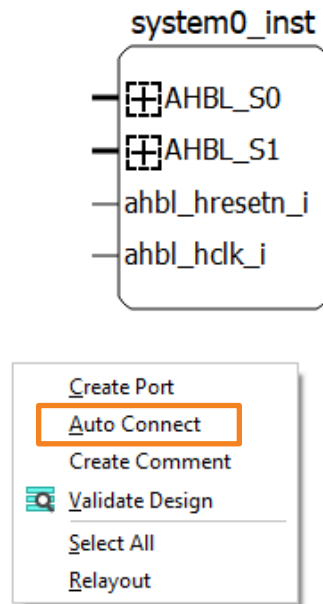
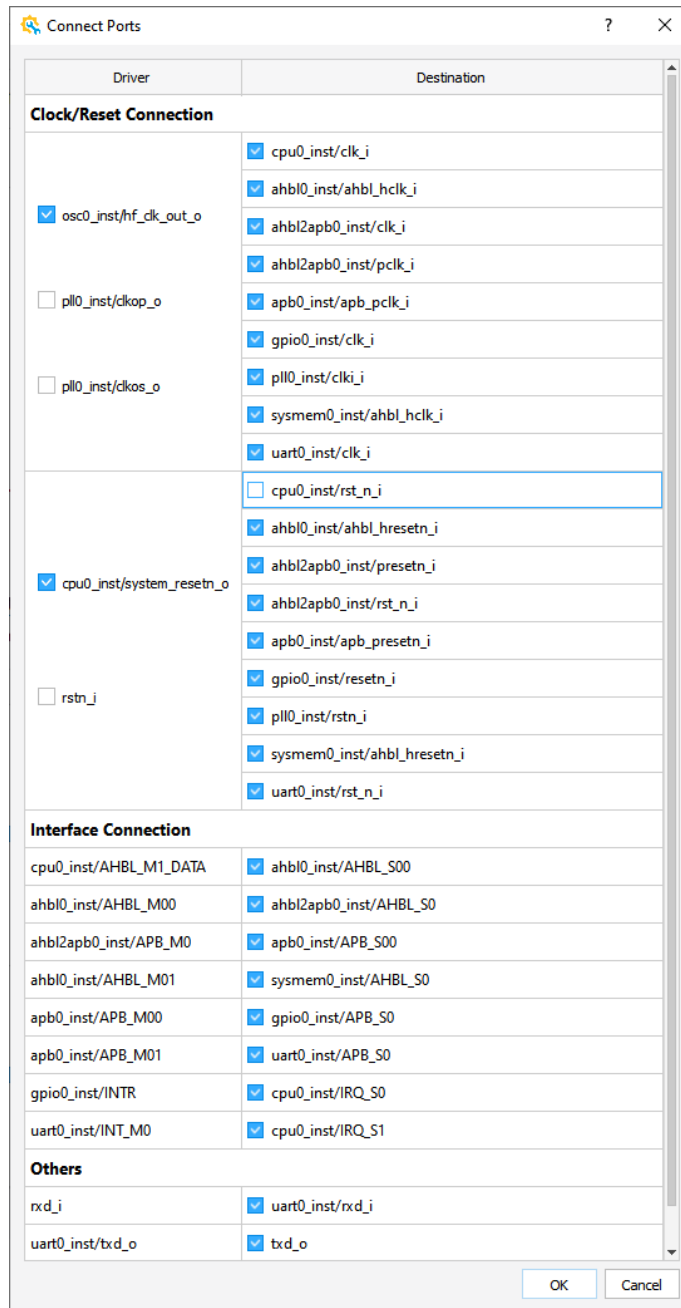

Figure 2.55. Action Menu of Right-clicking on Blank
Figure 2.56. Action Menu of Connecting Ports
- a. Right-click a bank and choose **Auto Connect** (Figure 2.55). The Connect Ports dialog appears (Figure 2.56).
- b. By default, **Auto connect** selects all ports. You can also deselect the interface/clock/rest pins that you do not want to auto-connect (Figure 2.56).